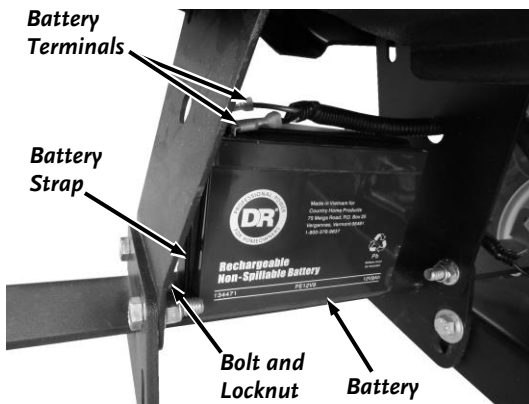

Figure 42
1. Disconnect the Battery Terminals (**Figure 42**).